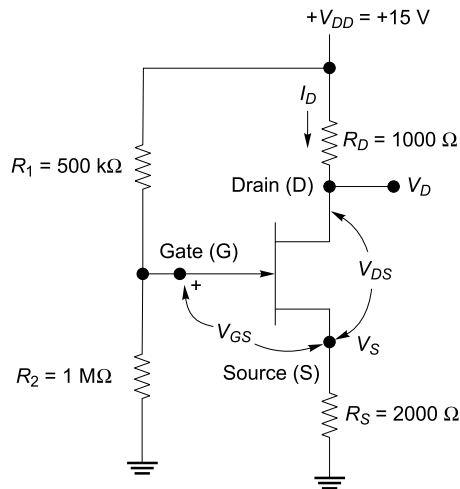

Fig. 1.70
1.10 A voltage divider biasing circuit of JFET is shown in Fig. 1.70. Determine the value of drain current I_D , gate to source voltage V_{GS} , and drain to ground voltage V_D when $I_{DSS} = 5 \text{ mA}$, $V_P = -6 \text{ V}$, $R_D = 1000 \Omega$, $R_S = 1500 \Omega$, $R_1 = 500 \text{ k}\Omega$, $R_2 = 1 \text{ M}\Omega$ and $V_{DD} = 15 \text{ V}$.